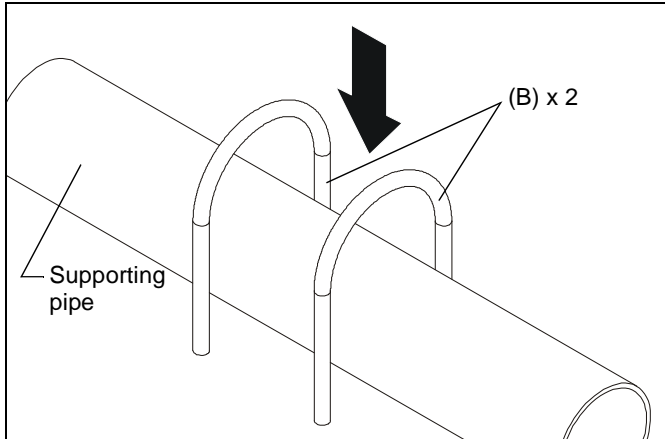

Figure 1
1. Place two U-bolts (B) over 1" (minimum) steel supporting truss or pipe. (See Figure 1)